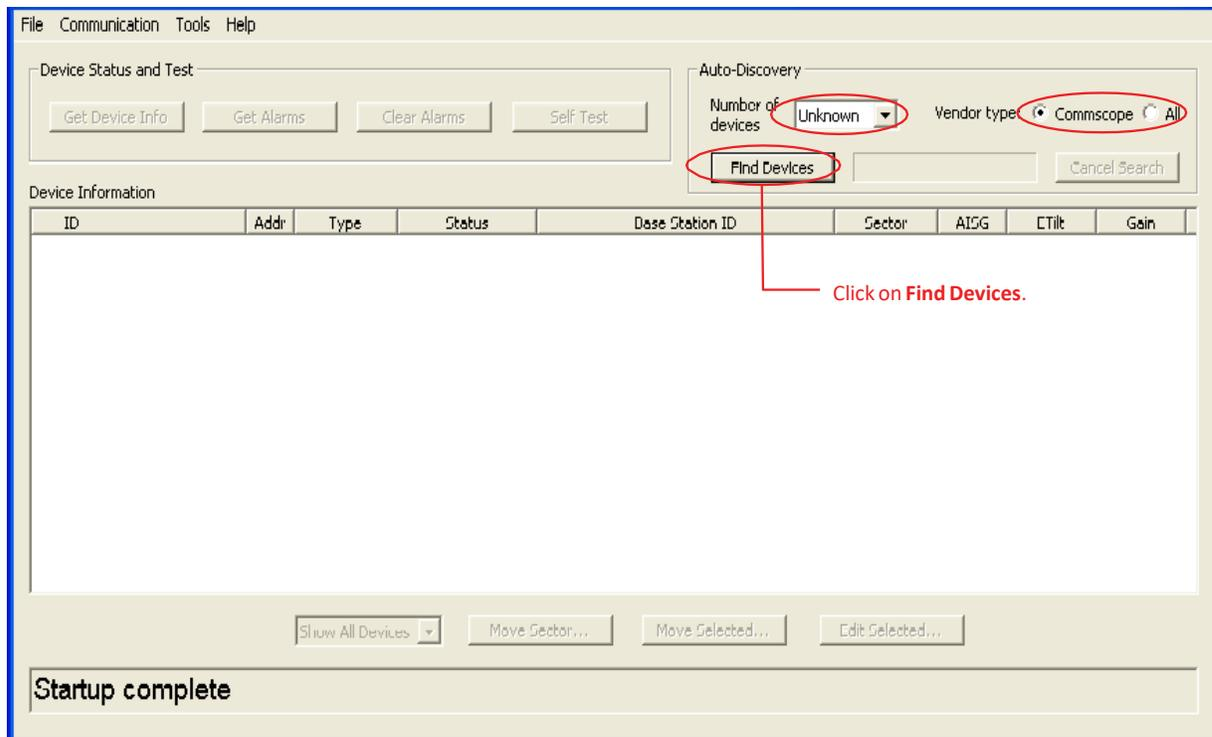

Figure 4-1. Main Startup Screen Ready for Device Search.
1. From the program's main startup screen, click **Find Devices** to start the device search (Figure 4-1).